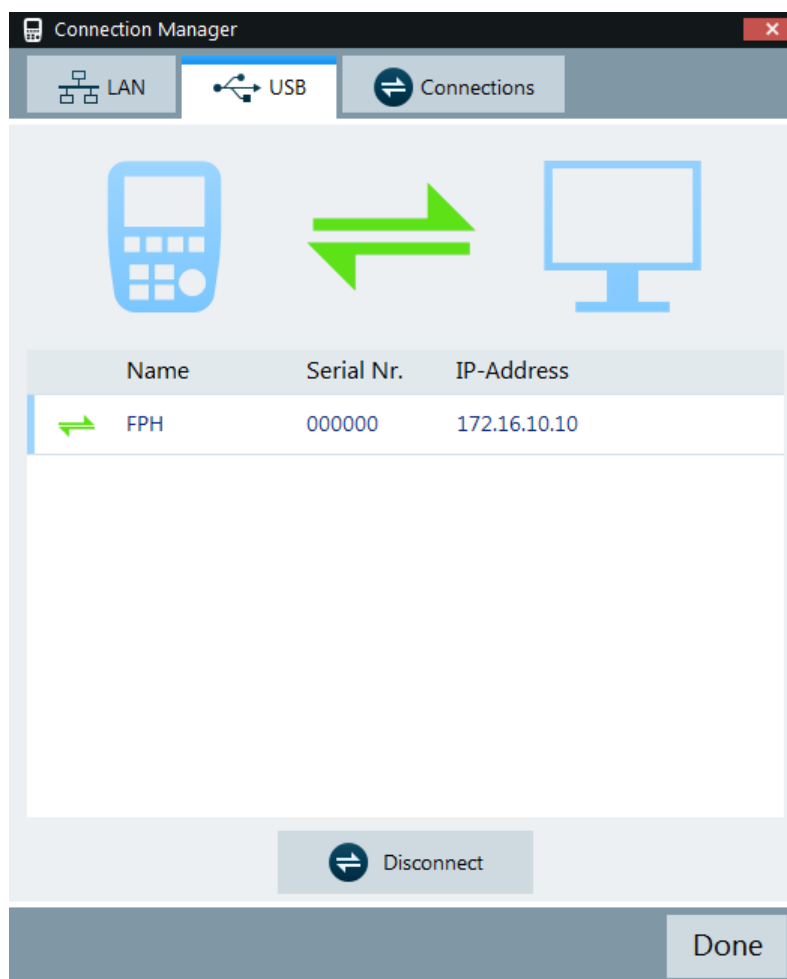

Figure 3-9: USB connection
3. There is only one USB instance in the connection manager list. See Figure 3-9. Depending on the connection status icon,   you can connect or disconnect an instrument from the connection manager list